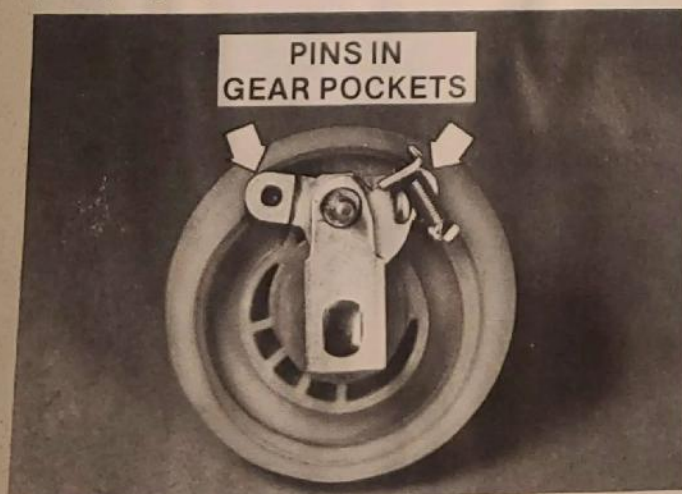

Fig. 46. Aligning Guide Pins in Gear
2. Hold gear and rotate drive plate counterclockwise until guide pins fit into gear pockets (fig. 46). Install pawl spring.